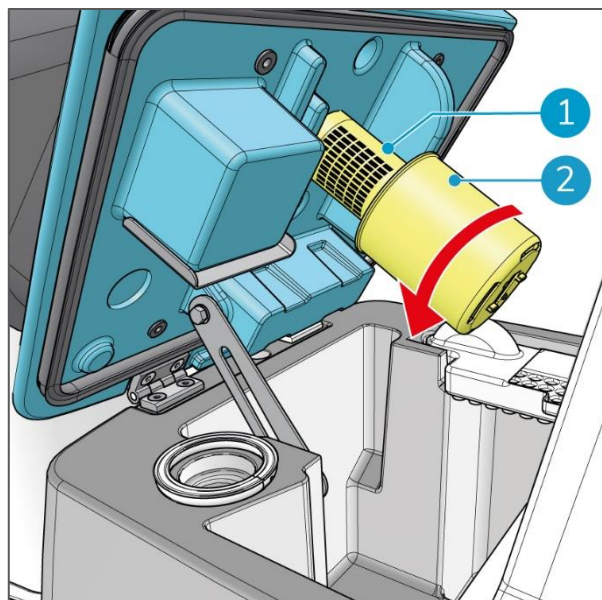

Figure 55
1. Turn the yellow cup (Figure 55, pos 2) from the separator (Figure 55, pos 1) anti clockwise to remove it.